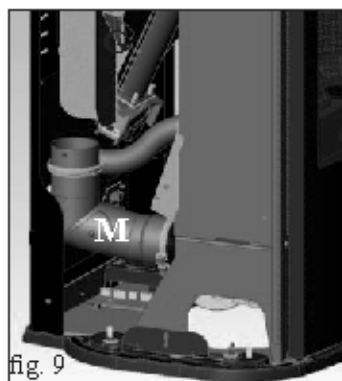

fig. 9
- Before repositioning the glass top, fit the 5 rubbers and 10 washers supplied into their housings in the cast iron top (L/M - fig. 9/10).
- Position the inspection elbow (M - fig. 9) and fix it using the clamp slackened previously.